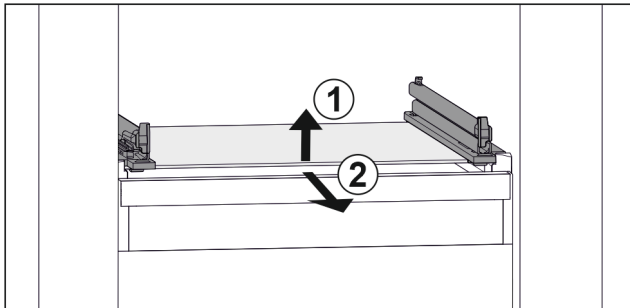

Fig. 47 Example illustration of glass shelf
- ▶ Lift glass shelf at the front. Fig. 47 (1)
- ▶ Remove glass shelf to the front. Fig. 47 (2)